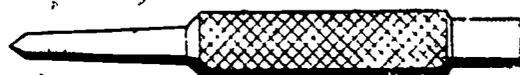

Figure 3-24 Center punch.
**Punches.** A center punch, shown in figure 3-24, is used to mark the location of a hole that is to be drilled. When the drill is placed in the center punchmark, it starts drilling the hole at that particular point. At the
hole is drilled without first locating it with a center punchmark, the drill will usually tend to move about on the piece of metal. This is called wandering; and when the drill starts to wander, the operator has no control over the exact location of the hole. A center punch point is usually ground to a cone shape of  $90^\circ$ , as shown in figure 3-24. Sometimes the point of a center punch becomes worn, and it must be reground. This is done with a bench grinder. To grind the center punch point to the proper angle, adjust the grinder rest so that the punch meets the wheel at the proper angle. Place the punch point on the rest and against the wheel. Rotate the punch during the grinding process to make the point symmetrical. Dip the punch in water at frequent intervals to keep it cool. Heating the punch point excessively will draw the temper out of it. Do not grind away more material than is necessary to secure a satisfactory point.